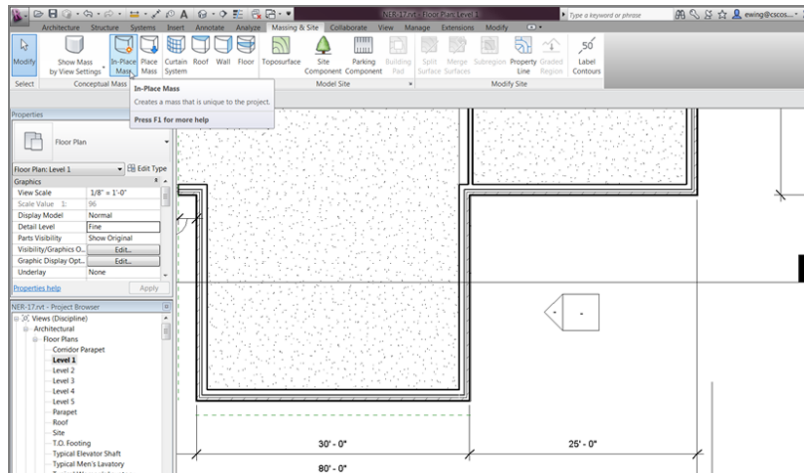

FIGURE 16.38: Massing up your model
2. Zoom in on the area shown in Figure 16.38.
3. On the Massing & Site tab, click the In-Place Mass button (see Figure 16.38). Revit may throw a warning stating that it's turning on the mass visibility. This is good, so click Close.